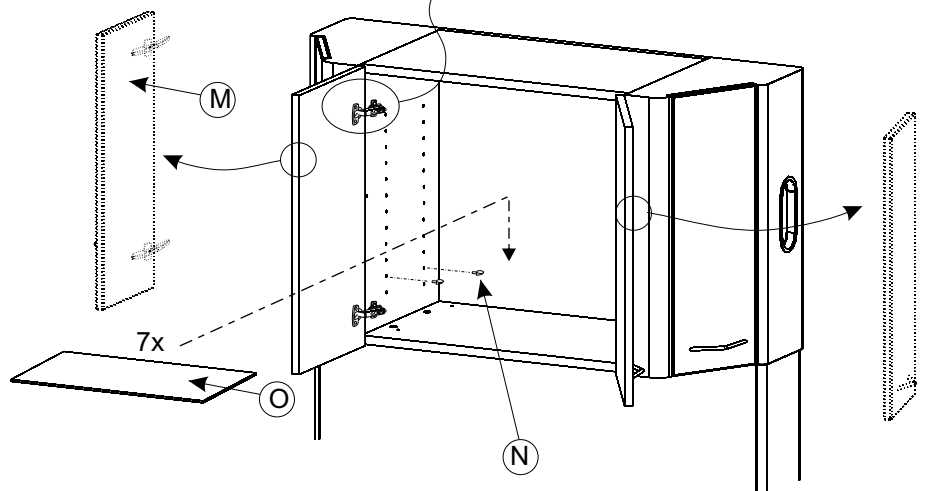

Figure 9
Remove Upper Doors (M) (to install Glass Shelves) by opening Upper Doors and pulling up on the tab at the end of the hinge base plate mounted on the inside of the storage area (see Figure 9)